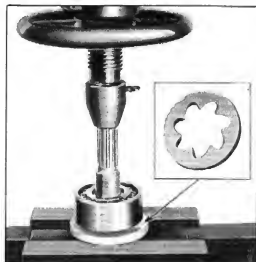

Fig. 23—Removing Front Pinion Bearing
3. Install the front pinion bearing remover J-1439 for 6-tooth pinions, J 1440 for 7 tooth pinions, over the pinion teeth and against the inner race of the double row bearing. Then press the bearing off the pinion shaft, Fig. 23.